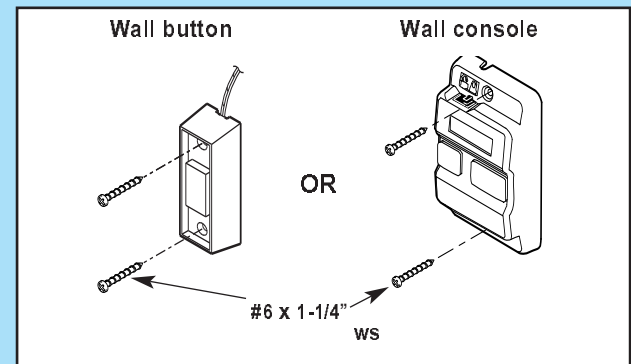

Fig. 4-2
- 4. Mount wall control (Fig. 4-2).**